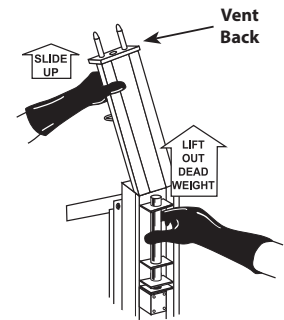

FIGURE 23 (PF Models)
- Remove deadweight and wipe out vent block (Figure 23). Clean deadweight at sink, towel dry and place back in vent assembly.